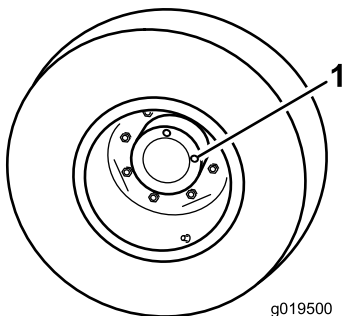

Figure 57
1. With machine on level surface, position the wheel so 1 check plug is at the 12 o'clock position and the other is at 3 o'clock position (Figure 57).
1. Check/drain plug (2)
2. Remove the plug at the 3 o'clock position (Figure 57).